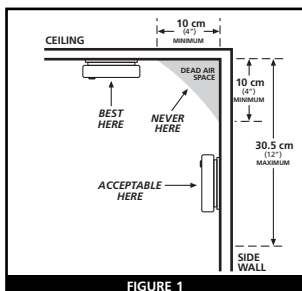

FIGURE 1
- When mounting an alarm on the ceiling, locate it at a minimum of 10 cm (4") from the side wall. (see Figure 1).
- When mounting the alarm on the wall, use an inside wall with the top edge of the alarm at a minimum of 10 cm (4") and a maximum of 30.5 cm (10") below the ceiling. (see Figure 1).
Modern caravans and mobile homes have been designed and built to be energy efficient. Install smoke alarms as recommended above (see Figures 1 and 2).
In older caravans and mobile homes that are not well insulated compared to present standards, extreme heat or cold can be transferred from the outside to the inside through poorly insulated walls and roof. This may create a thermal barrier which can prevent the smoke from reaching an alarm mounted on the ceiling. In such units, install the smoke alarm on an inside wall with the top edge of the alarm at a minimum of 10 cm (4") and a maximum of 30.5 cm (12") below the ceiling (see Figure 1).